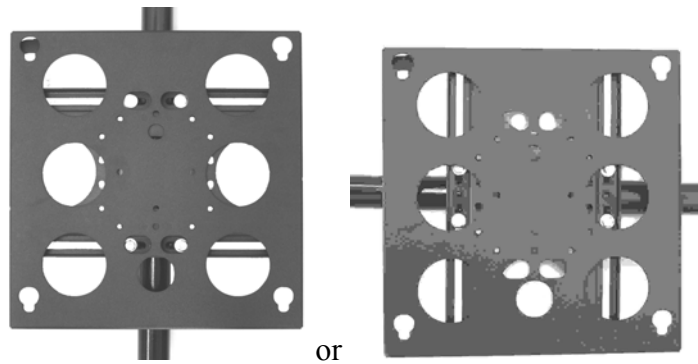

Figure 6. Pole Mounting Options
6. Place the face plate on the back plate in the desired position (see Figure 5 or Figure 6) and secure using four 5/16-18 X ½" button head cap screws in any matching set of holes.